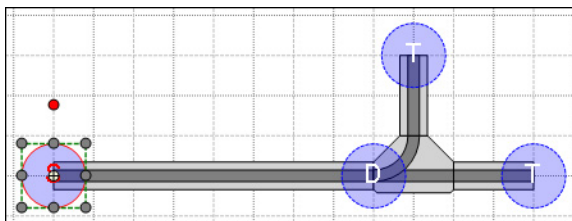

Figure 3-16: Node Selected to Start Automatic Configuration
- B. Select either a **Merge**, **Diverge**, **Simple**, or **Terminus** node for the starting point for the automatic path generation (see the simplified representation in Figure 3-16).